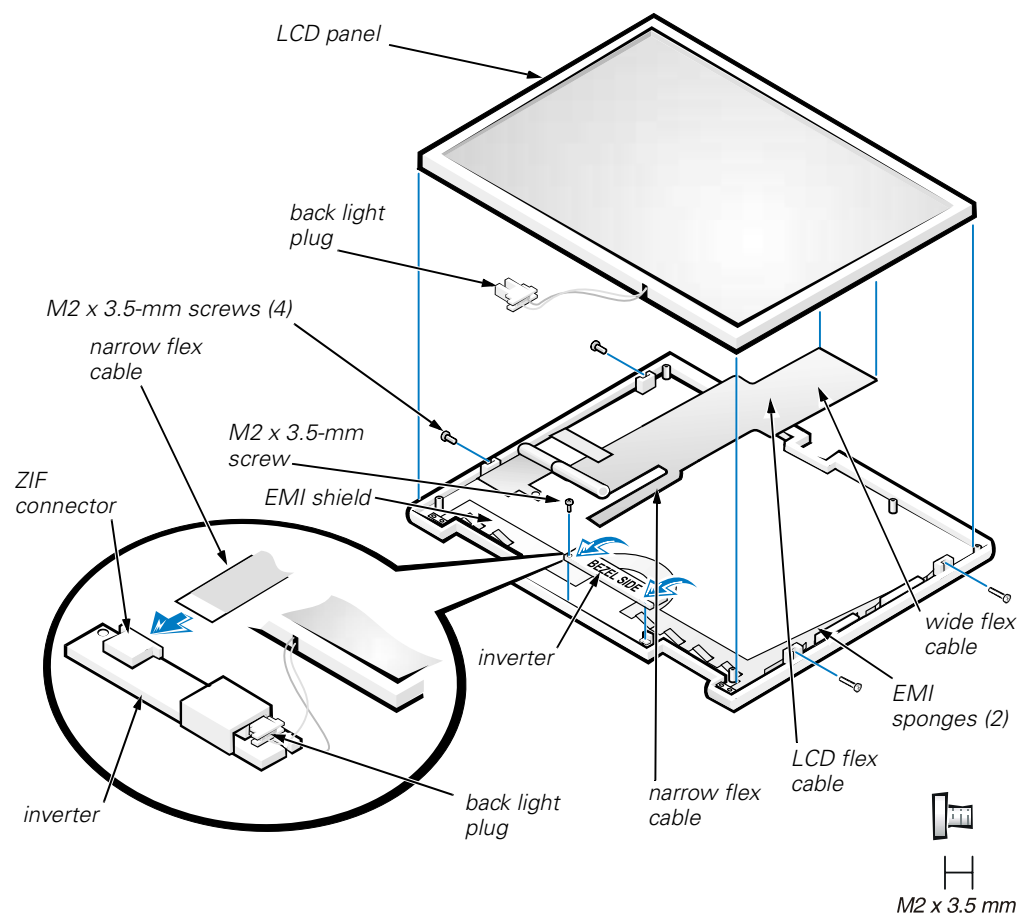

Figure 11. LCD Panel Removal
5. Remove the four M2 x 3.5-mm screws on the left and right sides of the display assembly that secure the LCD panel to the top cover (see Figure 11).
7. Lift and roll the inverter over (toward you), so the bezel side is down and the connector side is up (see Figure 11).
9. Disconnect the two-wire back-light plug from the connector on the right side of the inverter (see Figure 11).